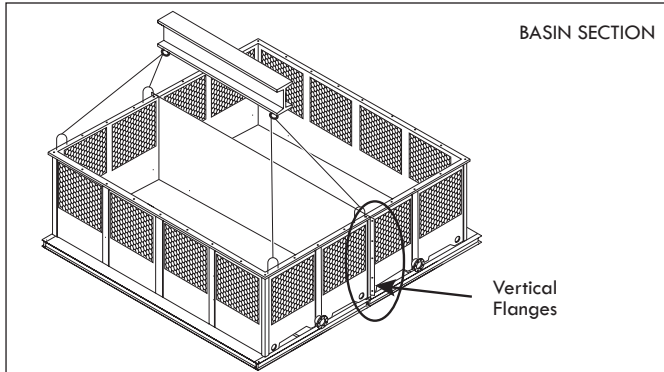

Figure A-26: Basin section 2 installation for a Quadruple Fan Tower
- G.** Place the basin section #2 of the Tower following the same instructions of step F. It is strongly recommended the use of the spreader bar as illustrated on Figure A-26. Once the both section are in the structural base, then proceeds to bolt together the vertical flanges of basin sections 1 & 2; use firsts the galvanized bolts and nuts to join sections (supplied by REYMSA); then replace the galvanized bolts with the stainless steel nut and bolt set supplied by REYMSA and secure both sections to the structural base.